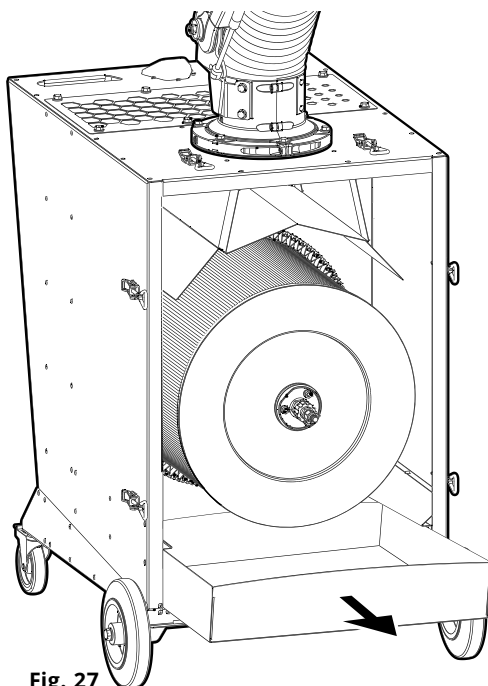

Fig. 27
5. Remove the dust collector (**Fig. 27**). Empty if needed, refer to Section 8.4 Emptying the dust collector.
9. Slide the dust collector under the chute, see **Fig. 27** as a reference.